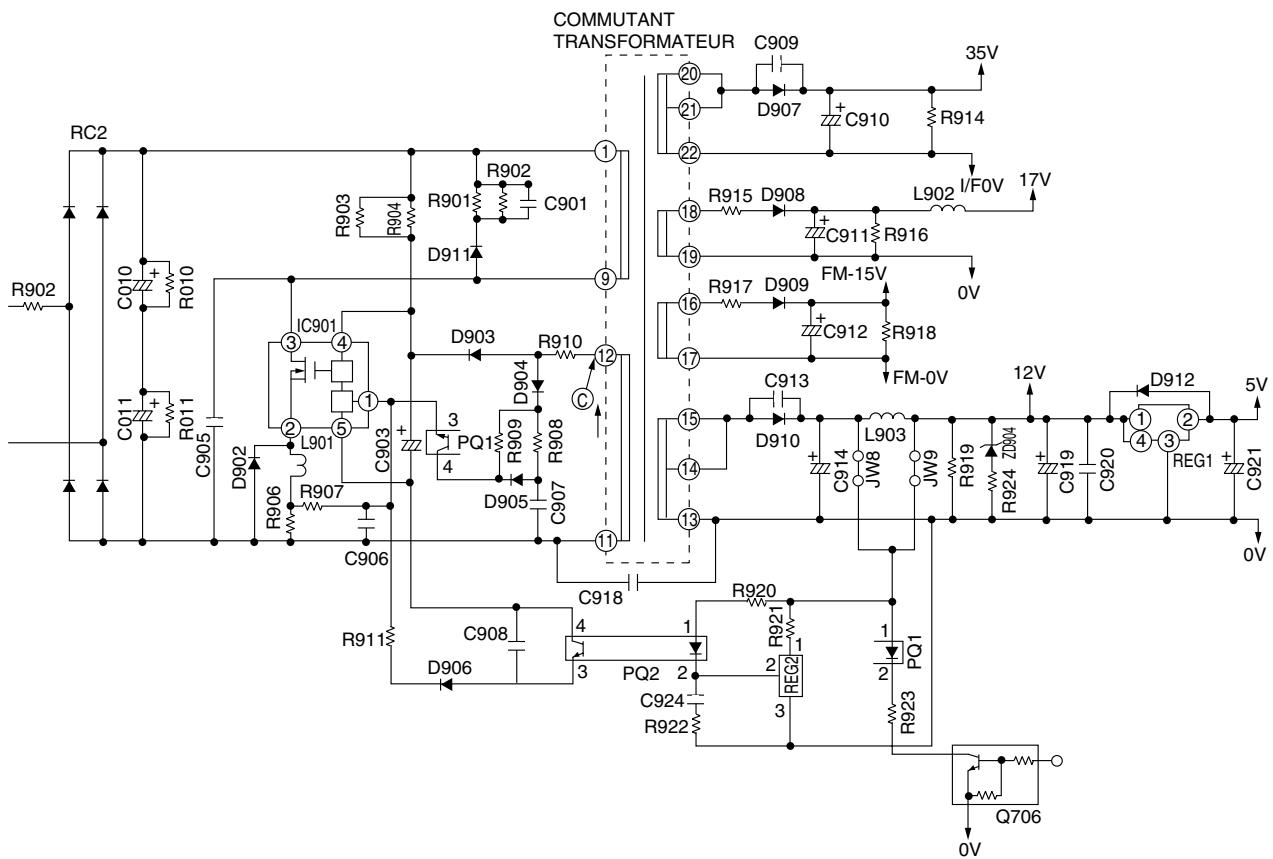

Fig. 4-1 Circuit d'alimentation pour le circuit imprimé
(1) Shifting from OFF to ON
- DC about 330V is applied from smoothing capacitors C010 \oplus and C011 \ominus in the control power circuit. With this power, current flows to pin ④ of IC901 via R903 and R904 and IC901 starts to turn ON. Since voltage in the direction of arrow generates at point ⑥ at the same time, current passing through R910 and D903 is positive-fed back to IC901.
- La Fig. 4-1 représente le circuit d'alimentation pour le circuit imprimé et la forme d'onde à chaque point.